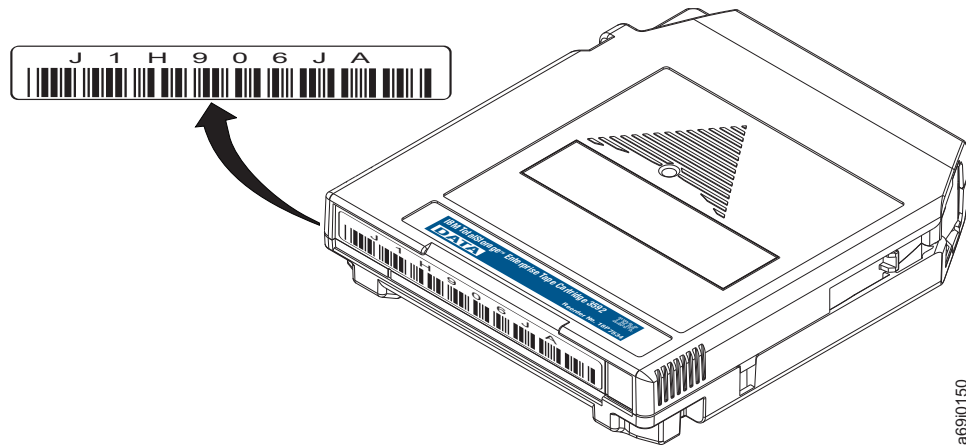

Figure 57. Sample bar code label on an IBM 3592 tape cartridge. The volume serial number (J1H906JA) and bar code are printed on the label.
When read by the library's bar code reader, the bar code identifies the cartridge's VOLSER to the tape library. The bar code also tells the cartridge type: data (JA), extended data (JB), advanced type C data (JC), advanced type D data (JD), economy (JJ), advanced type C economy (JK), advanced type D economy (JL), economy WORM (JR), WORM (JW), extended WORM (JX), advanced type C WORM (JY), advanced type D WORM (JZ), cleaning, or diagnostic cartridge. Figure 57 on page 184 shows a sample bar code label for the IBM 3592 Enterprise Tape Cartridge.
When attaching a bar code label to a tape cartridge, place the label only in the recessed bar code label area (see Figure 57 on page 184). A label that extends outside of the recessed area can cause loading problems in the drive or the library.